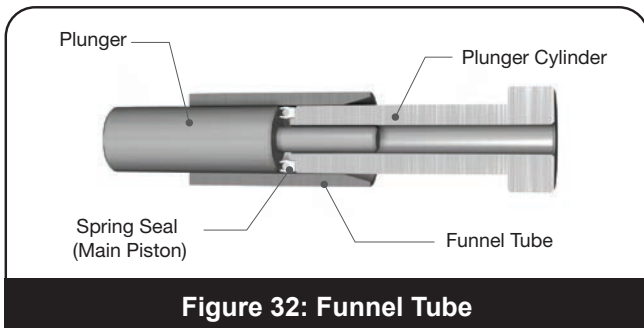

Figure 32: Funnel Tube
- iv. Insert Funnel Tube, chamfer side first, over the Plunger and Spring Seal (Adjuster Top). Stop when Spring Seal (Adjuster Top) is about half way inside the Funnel Tube as shown in Figure 32.